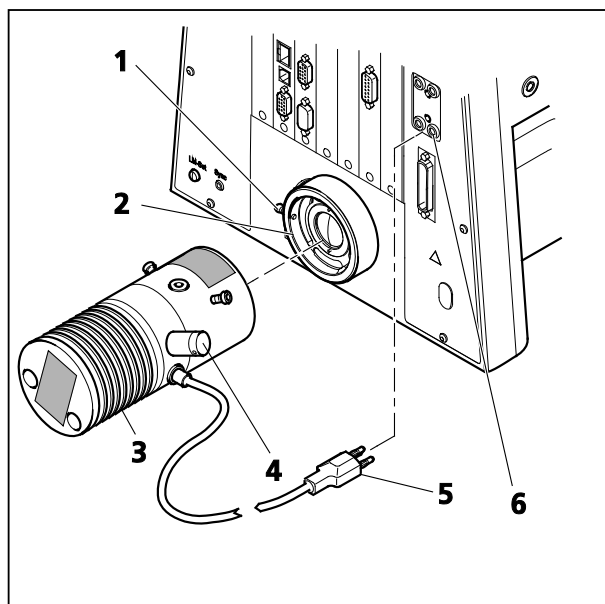

Fig. 50 Installing the VISLED attachment lamp
- Loosen clamping screw (Fig. 50/1) on transmitted-light port (Fig. 50/2). Remove the halogen lamp.
- Use an AF 3 ball-headed screwdriver and clamping screw (Fig. 50/1) to lock the attachment lamp (Fig. 50/3) with dovetail mount firmly into socket (Fig. 50/2).
- Connect the three-pin illuminator plug (Fig. 50/5) to the lower three-pole 12 V / 100 W socket (Fig. 50/6) for transmitted light (TL) on the back of the instrument.
- For the coded stand, set the transmitted-light/reflected-light toggle switch to the position for transmitted light (TL). If the motorized stand is used, switch between reflected light and transmitted light using the TFT display touch screen.